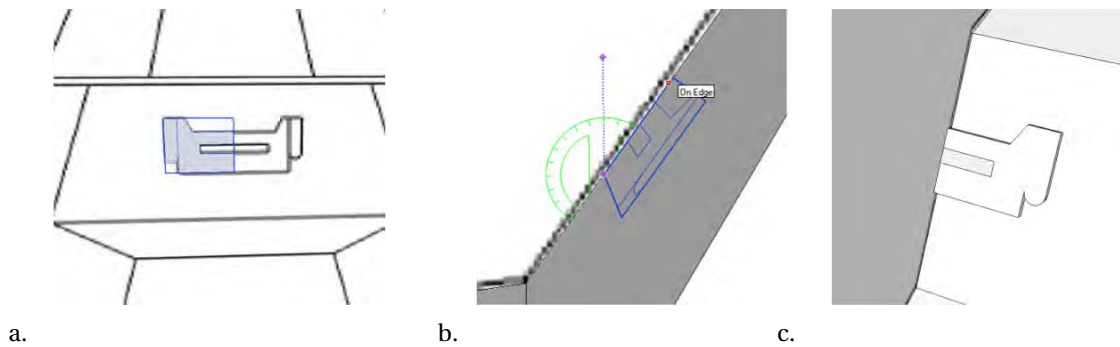

Figure 8–29. Modeling the front window of the armored car
3. After adding all the details of the model, rotate the model, and make sure to delete all the internal remains, surfaces, and lines created as a result of adding the extra detail. Make sure to zoom into the model and delete any extra surfaces created. From the Figure 8–30, you can see when adding the window to the model it creates surfaces on the inner side of the model. Select and delete these surfaces.